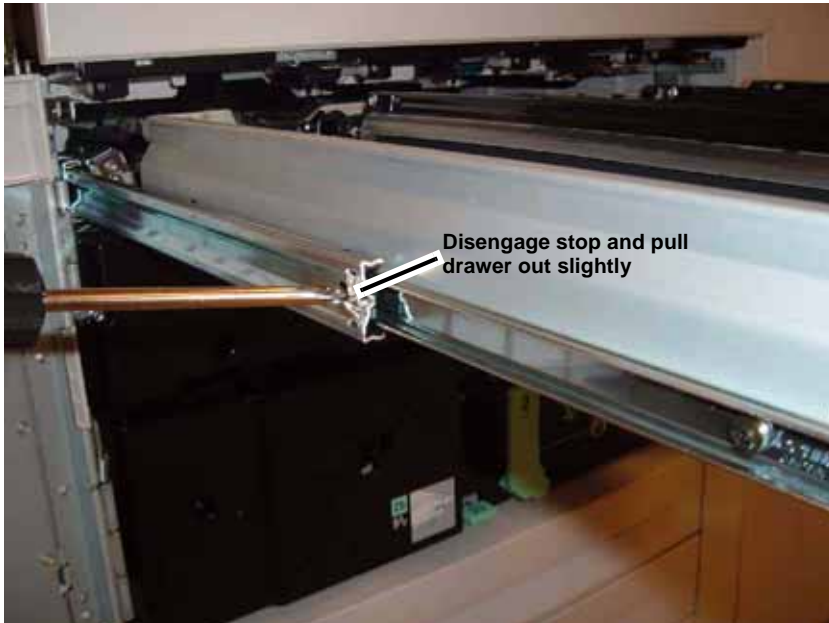

Figure 1 Disengaging left first stop
6. Disengage first stop on the left side (Figure 1).